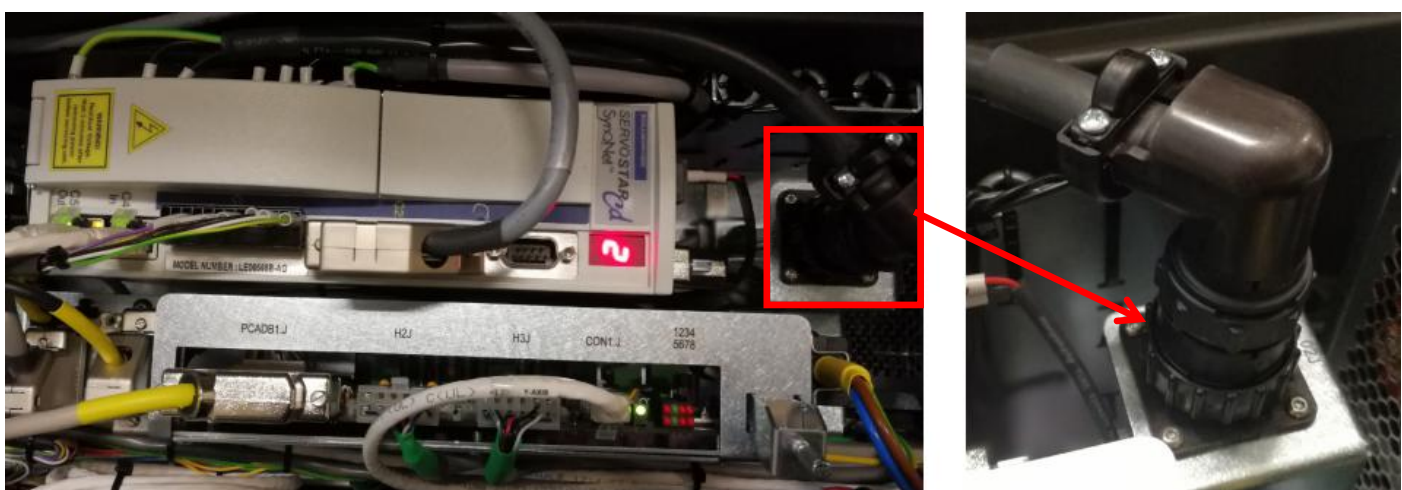

Figure 31
36. Connect Y-Axis Motor Power Cable as Figure 31.